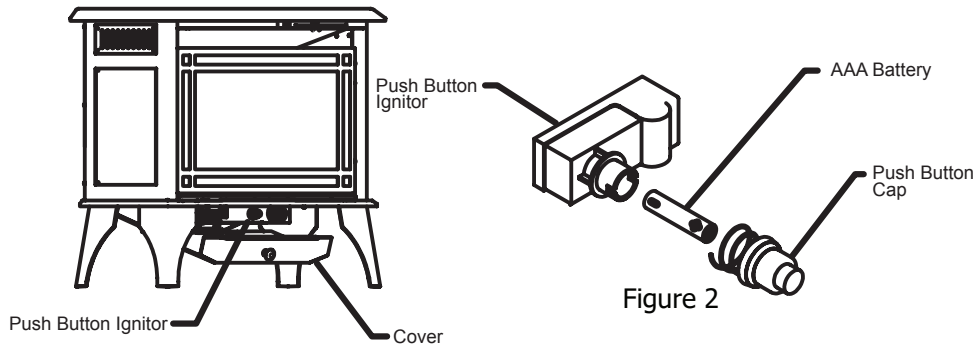

Figure 1
- Step 1 – Locate the Push Button Ignitor by lowering the cover on the bottom of the stove. (Fig. 1)